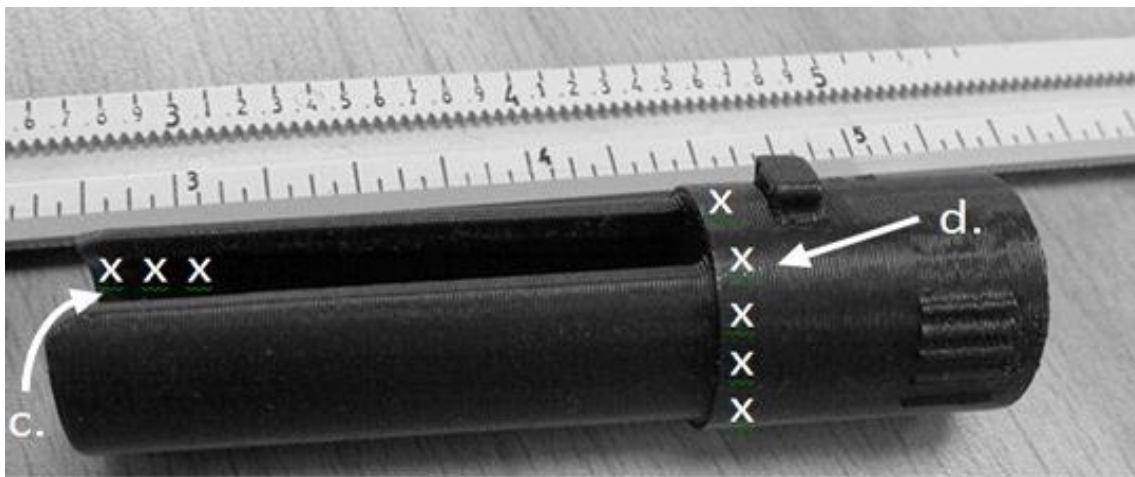

Figure 12- Shaft Sleeve Lubrication Points
22. Using Synthetic Lubricant with Teflon, generously apply grease/lubricant to the areas of the shaft sleeve as indicated in Figure 12: